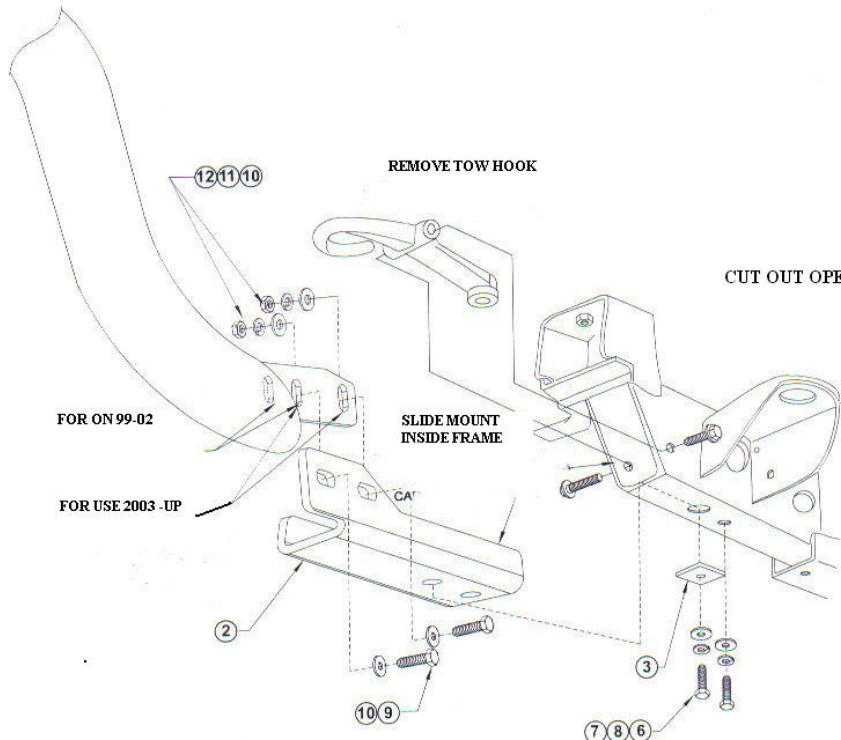

FIGURE 2 INSTALLATION OF PASSENGER SIDE- DRIVER OPPOSITE
**STEP 4** ATTACH HOOP MOUNTS BRACKETS TO FRAME BRACKETS USING 3/8" FASTNERS AS SHOWN . **NOTE:** 1999-02 MODELS USE FRONT AND MIDDLE HOLES ON THE LOOP MOUNTING BRACKETS. 2003 UP MODELS USE MIDDLE AND REAR HOLES. SEE FIGURE 2.